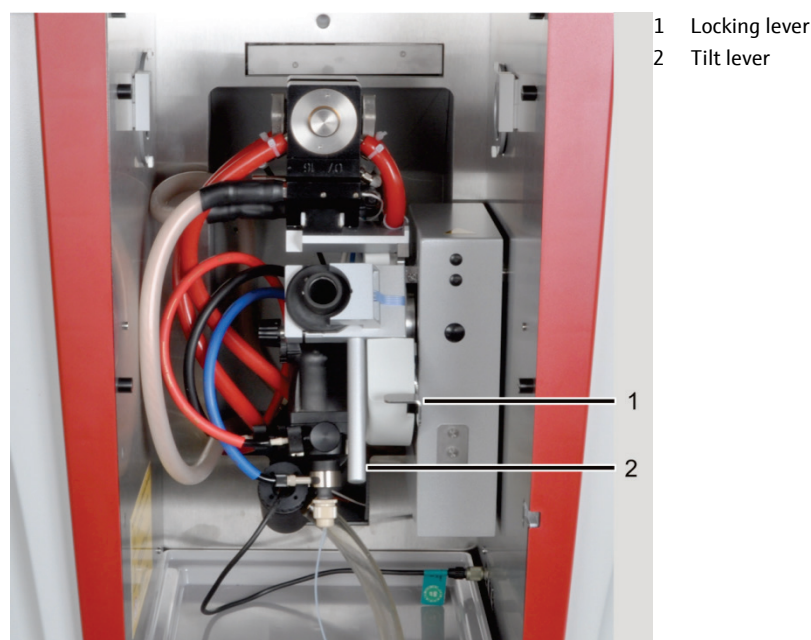

Fig. 38 Changing the atomization technique
- Push up the locking lever (item 1 in Fig. 38) and unlatch it.
- When doing so, use the tilt lever (item 2 in Fig. 38) to tilt the graphite furnace backwards or forwards until it reaches the stop. Bring the atomizer into the desired working position.
- When doing so, use the tilt lever (item 2 in Fig. 38) to tilt the graphite furnace backwards until it reaches the stop. Bring the clamped connector into the desired operating position.